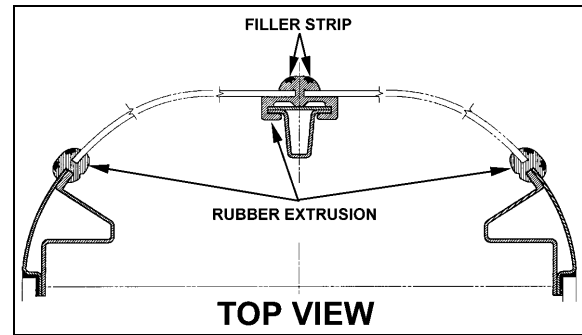

FIGURE 47: WINDSHIELD INSTALLATION TOP VIEW¹⁸⁰⁹⁸
2. Insert rope into rubber extrusion leaving enough length at each corner to make a loop. Spray soapy water onto rope and rubber extrusion (Fig. 47).